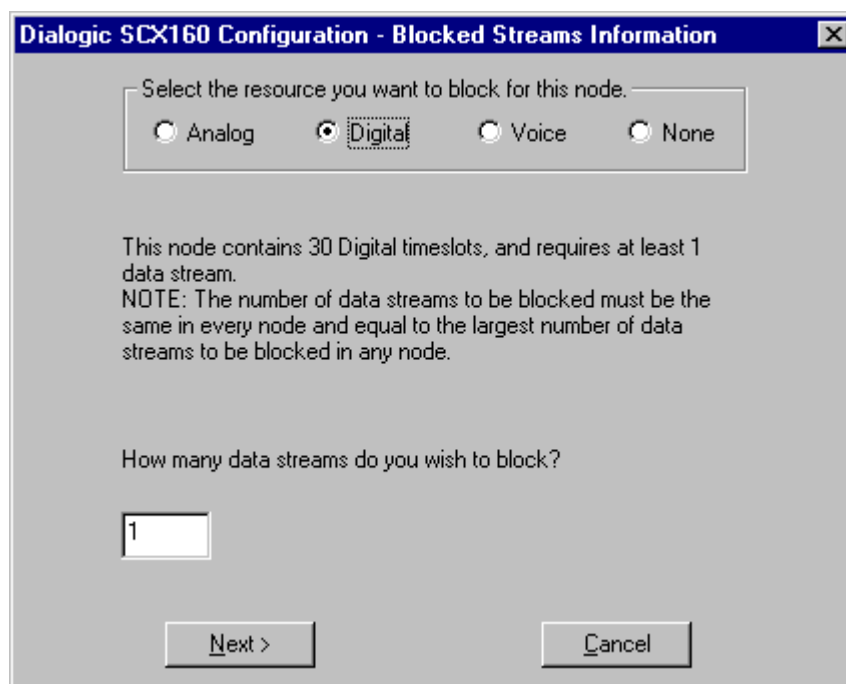

Figure 35. Number of Blocked Streams Window
19. The number of data streams required to block the selected resource is automatically calculated (*Figure 35*). A larger number of data streams must be blocked if this number is not the largest number of data streams that will be blocked at another node (see *Section 2.3. Blocking Data Streams*).
If you do not wish to block a resource on a particular node, select **None** (*Figure 35*).